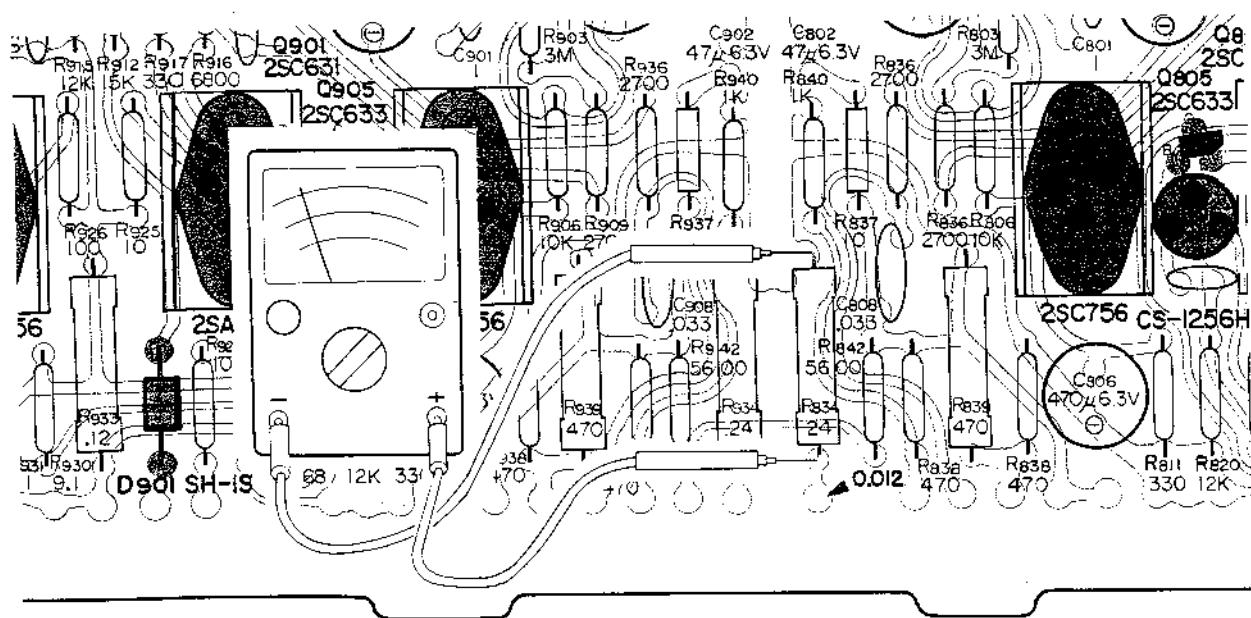

Fig. 4-7-1 DC Bias Adjustment Test Set-up
- Connect the dc volt meter between the emitter of Q_{513} and ground as shown in Fig. 4-7-1.